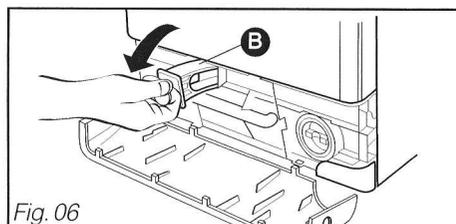

Fig. 06
– Retirez la bride "avant" (Fig. 06).